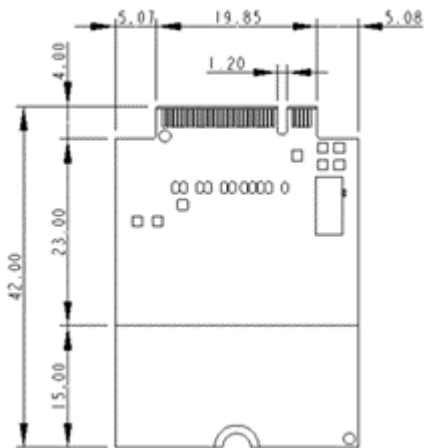

Figure 6-6: Copper Pad Location on Bottom Side of Module
Specific areas requiring heat dissipation are shown in Figure 6-6:
- Monitor temperature at all shield locations. Attach thermocouples to the areas indicated in Figure 6-6 (RF, Baseband).